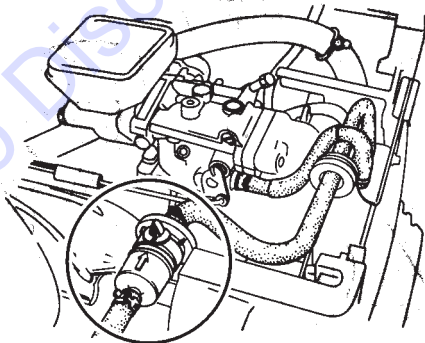

Figure 14. Honda Fuel Filter
1. Replace the engine fuel filter (Figure 14) every 200 hours.